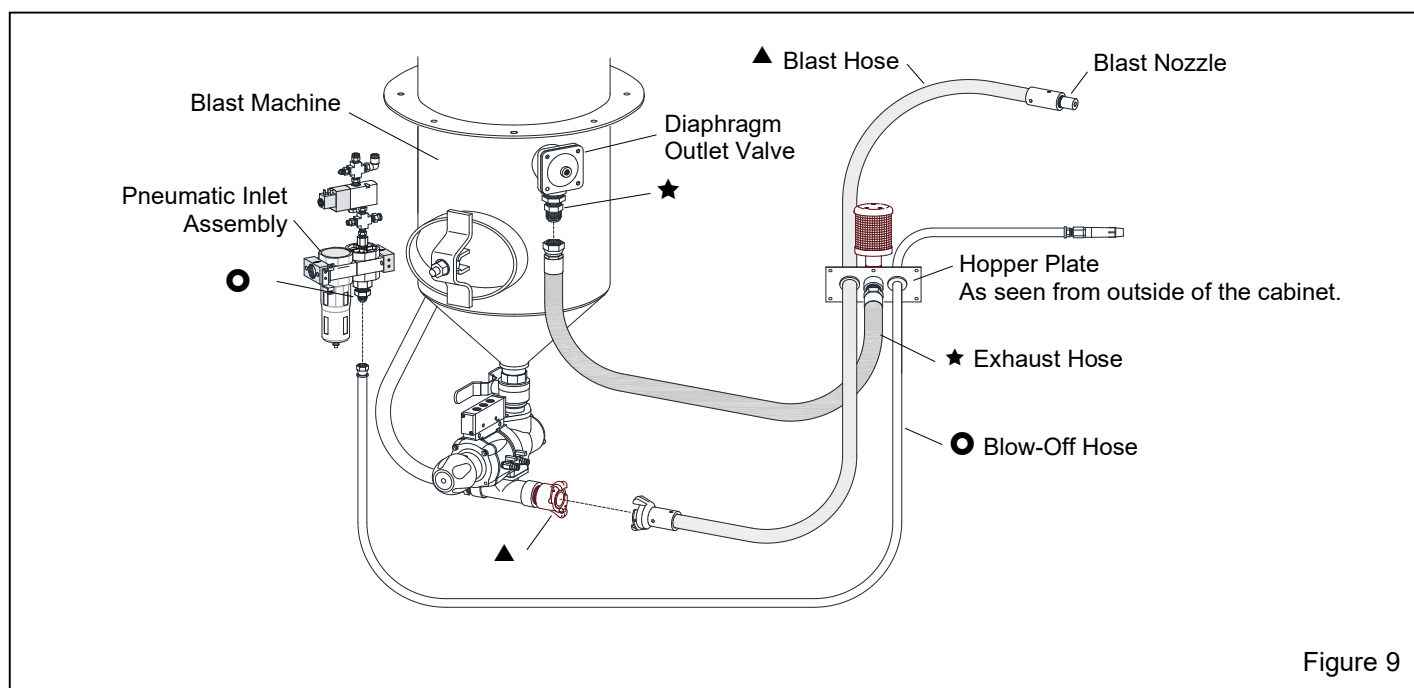

Figure 9
2.6 Connect Exhaust Hose, Blow-Off Hose, and Blast Hose – Figures 9 and 10
2.6.1 Refer to Figure 9 and connect the female swivel end of the ★brown exhaust hose, from under the cabinet hopper, to the compatible fitting on the diaphragm outlet valve.